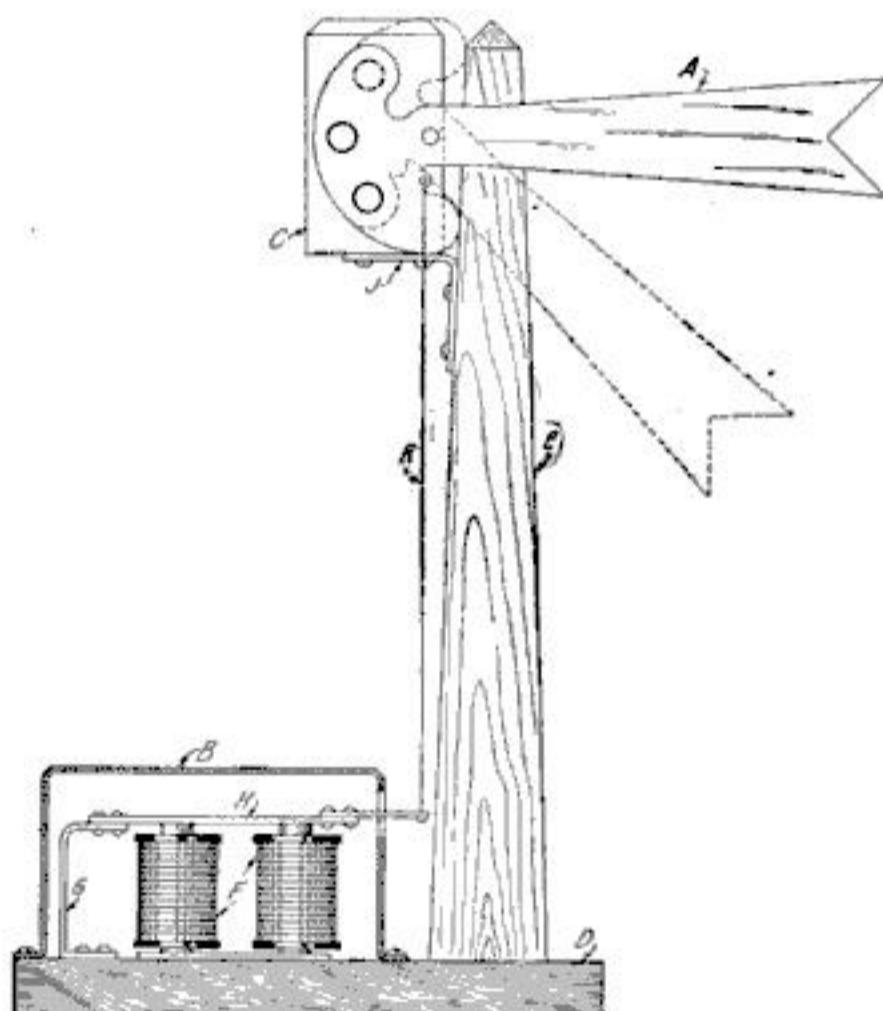

Fig. 1. The semaphore, if properly painted, has a very realistic appearance
Its construction requires an electromagnet, (F) Fig. 1, pulling down an arm (A) when the magnet is energized. The arm is provided with a small extension, so that it automatically shows the regulation colored lights at either position of the arm. When at right angles to the standard it is supposed to signify "Stop" or "Danger," and a tiny red light shows. When hanging down at  $45^{\circ}$  from the standard it signifies "Clear Track" and only a small white light is seen.
No dimensions are given for the spring (G), armature (H), or projection arm (Fig. 1), their size depending on the size magnet used. The spring (G) should be made of some spring metal, such as german silver or phosphor bronze. The armature (H) is made of soft iron and the projection arm of aluminum. The spring and arm are riveted to the armature.
placed at a distance from the semaphore. In Fig. 1, the arm is shown with the current passing through the magnet.